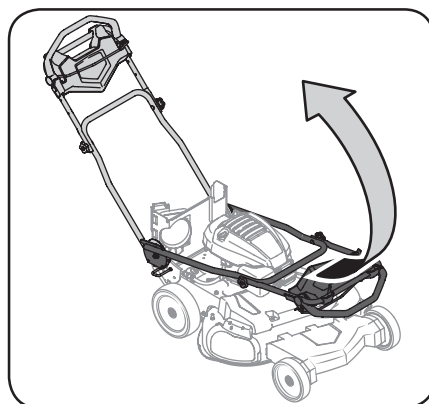

Figure 2-2
3. Pivot the handle into operating position. Be careful not to crimp cables. See Figure 2-2.